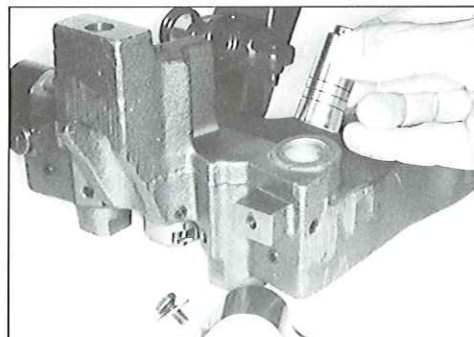

FIG. 53
2. Remove the master piston (see Fig. 53). Use needle-nose pliers if necessary.